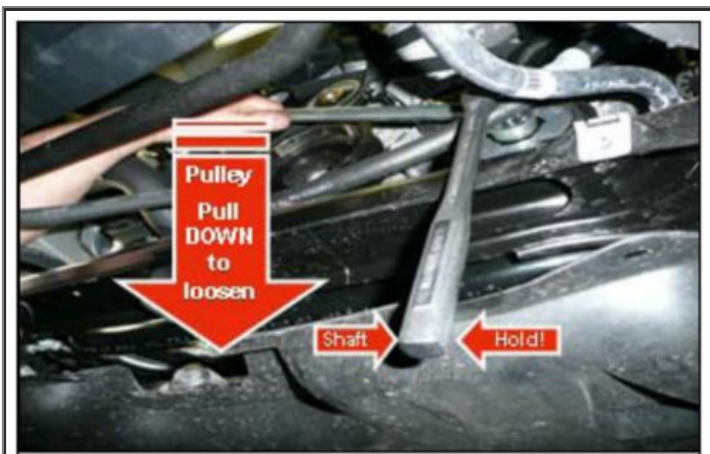

Figure 3a
**Method A** (Preferred and shown in picture above): Hold the compressor shaft stationary and turn the drive hub counter clockwise to loosen (Figure 3a). Turn the hub clockwise to tighten.